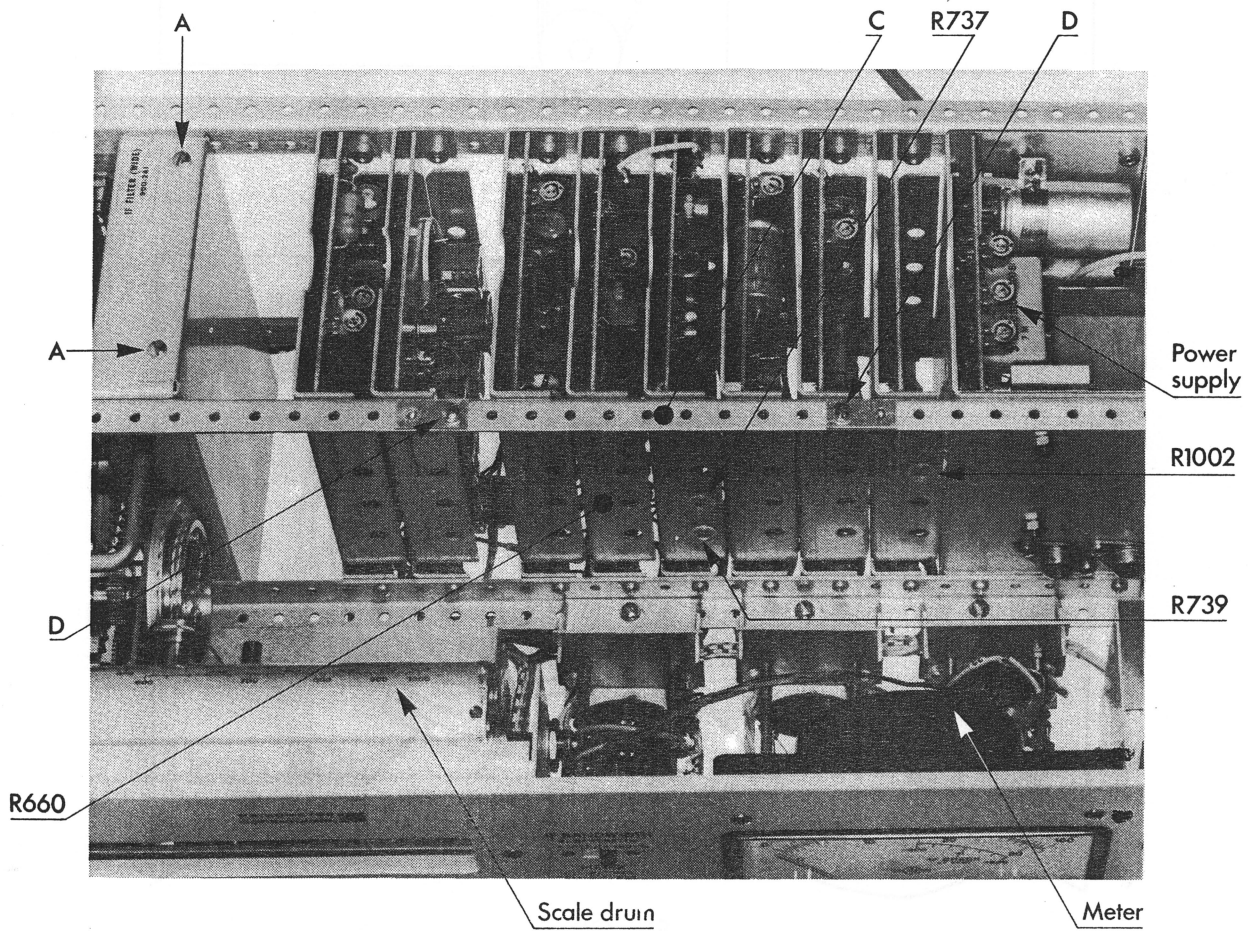

Fig. G7.
- 89) Using a trimming tool, adjust potentiometer R660, shown in Fig.G7, until the DC DVM indicates $+10 \text{ V dc} \pm 0.5\%$.
- 108) Using a trimming tool, adjust the potentiometer R737, shown in Fig.G7, until the METER deflects to the IF CHECK mark.
- 134) Using a trimming tool, adjust potentiometer R1002, shown in Fig.G7, until the METER on the AFM2 indicates zero.